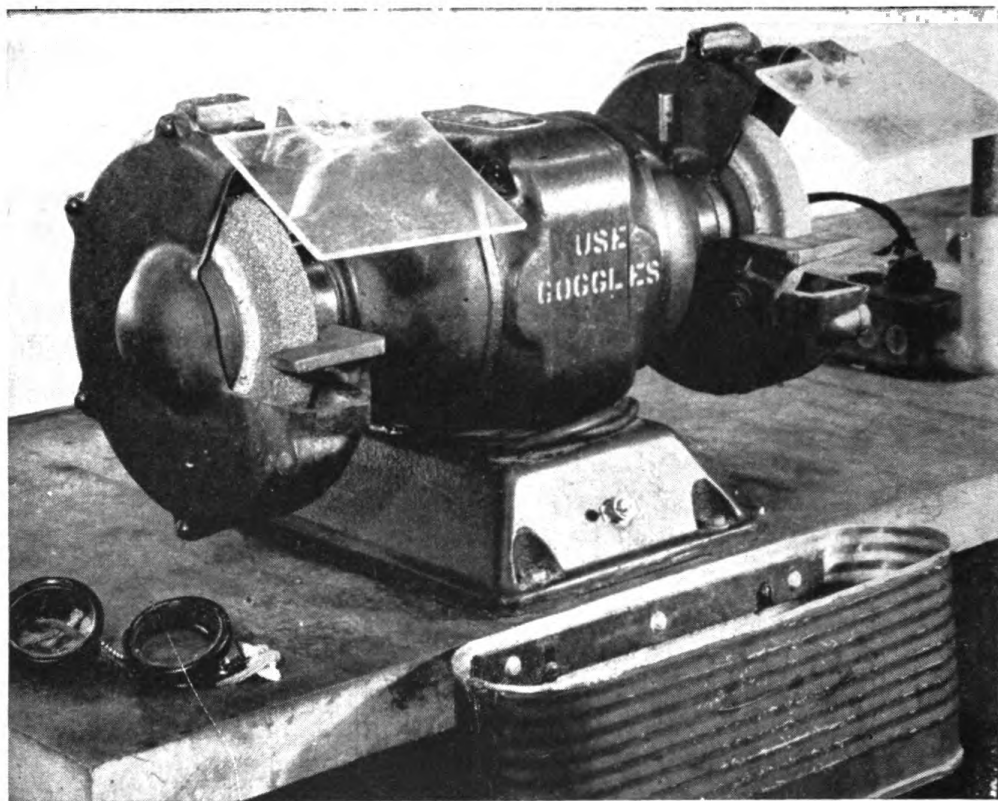

Figure 181 ©. Electric bench grinder.
a. **GENERAL.** An electric grinder consists of an electric motor with a grinding wheel mounted on each end of the motor shaft. It will also have the necessary guards and shields to protect the operator from injury. Usually, one of the wheels is coarse, to be used for rough work, and the other wheel is fine, to be used for sharpening tools. There are two models of grinders: the bench grinder which sits on a bench (fig. 181 ①) and the pedestal grinder which is bolted to the floor. (See fig. 181 ②.)